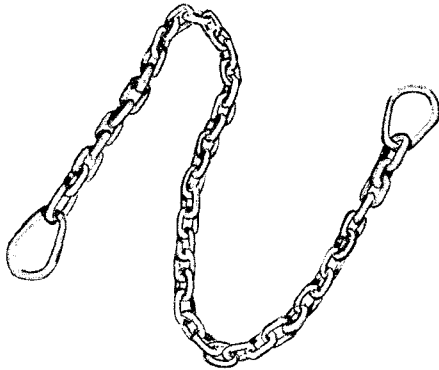

Fig. 1—5/16-Inch Chain
- 2.01 The 5/16 inch construction chain is 52 inches long with each end terminated in a pear shaped link (Fig. 1).